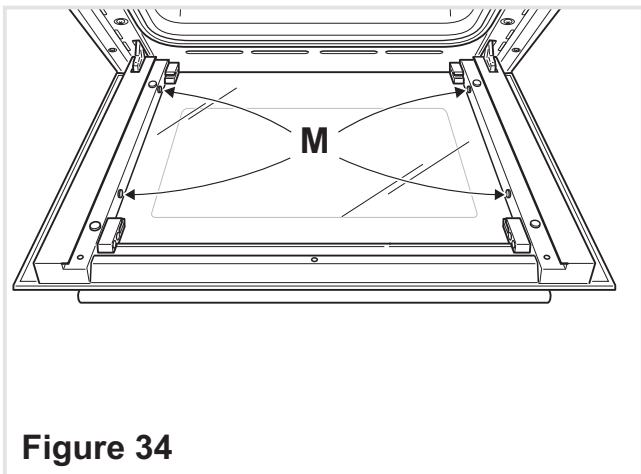

Figure 34
- Check that the four rubber pads are in place ("M" in fig. 34).